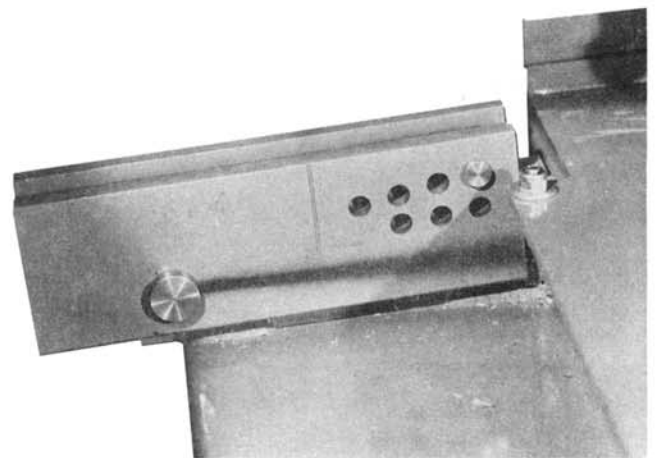

fig 17
3. Locate the corresponding hole in the hinge support and insert the clevis pin (item 61) and secure with hair pin cotter (item 78). See fig 17.